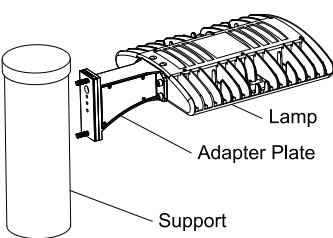

Figure 8-2
**Notice: Round pole should be with additional adapter plate. (Figure 8-2)**